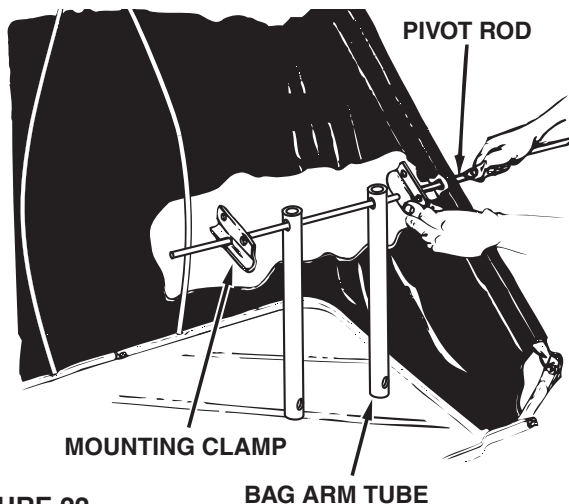

FIGURE 22
12. Slide the hopper bag pivot rod through the hole in an upper hopper tube. Assemble a mounting clamp, two bag arm tubes and another mounting clamp onto the rod as shown in figure 22. Push the rod on through the upper hopper tube on the opposite side of the bag.